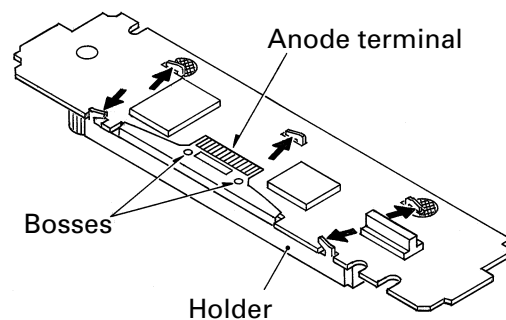

Fig.3
1. Apply hot air to the cable pins for the anode terminal using a blower used for removing a flat-packaged IC or something like that. When all the pins are peeling off from the P.C.board, pinch the cable with a pair of tweezers and remove it slowly from the P.C.board. (Fig.3)
2. Five tabs are extended until becoming straight in the direction of the arrow and then remove the Holder. (Fig.3)
6. Install the Holder. (Fig.3)
7. When soldering the flexible cable for the Anode terminal on the P.C.board, first, insert the Bosses on the P.C.board into the 2 holes in the flexible cable. Then, take the same procedures 2 and 3 as that for the Cathode terminal to solder the cable pins. (Fig.3)